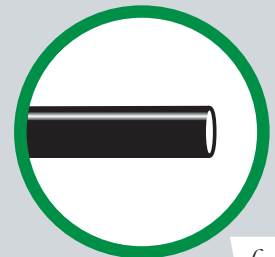

fig. 19
When cutting air lines, use a sharp knife or a hose cutter and make clean, square cuts (Fig. 19). Do not use scissors or wire cutters because these tools will deform the air line, causing it to leak around fittings. Do not cut the lines at an angle.
1. If there is a problem with the push-to-connect fitting, remove the air line as described above. Trim 1" off the end of the air line. Be sure the cut is clean and square (see Fig. 19).